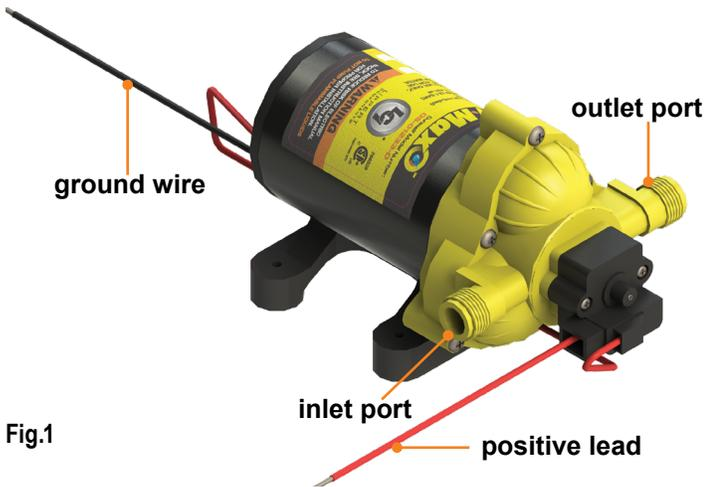

Fig.1
1. Install in-line screen (**Fig.2A**) on the inlet side of the pump (**Fig.1**) to prevent debris from entering the pump.
2. Using the supplied 1/2" swivel connectors (**Fig.2B**) connect flexible, high-pressure hoses to both the outlet port of the pump and the inlet port of the in-line screen (**Fig.1**).
2. Install a 15 amp (ignition protected) switch on the positive lead (red wire) (Fig.1). The switch should be mounted in an easily accessible location.